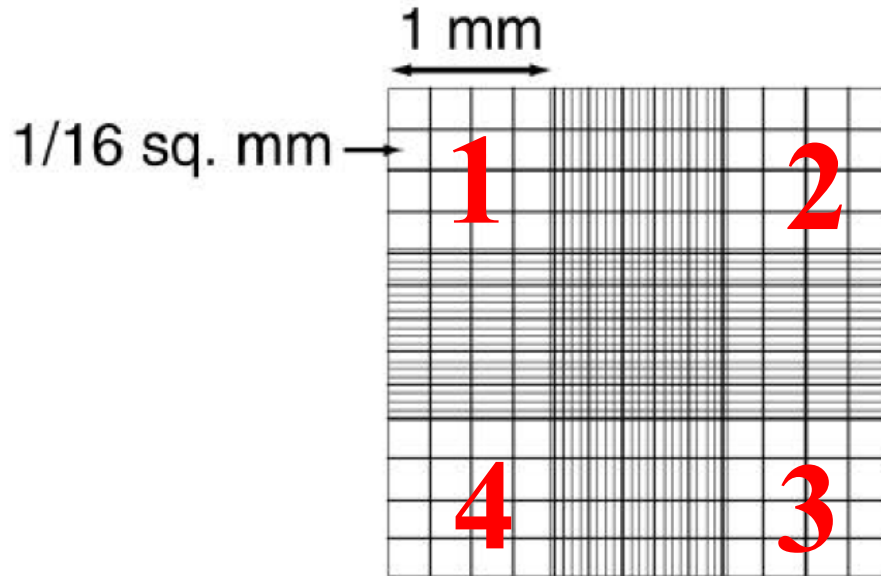

Figure 2: Diagram of hemacytometer quadrants
- 8.4.1. The grid is divided into four main quadrants (Figure 2). Beginning with quadrant 1 and moving through to quadrant 4, depress the correct button on the push button counter for every cell in each square.
9.2. Figure 2: Diagram of hemacytometer quadrants